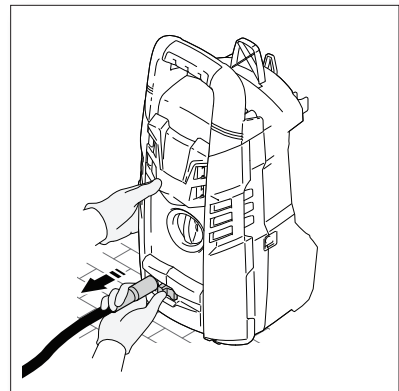

Fig. 5
- When not in use, disconnect the 20' hose by pushing the lock the opposite direction and pulling firmly on the hose again **(Fig. 5)**.